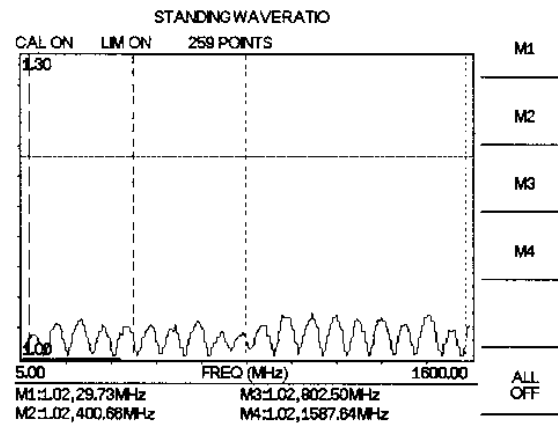

Figure 4-5. Cable SWR Measurement Results
**Step 17.** Observe the displayed measurement. Figures 4-5 and 4-6 show typical SWR and Return Loss measurements with markers and limit line set.
**Step 25.** Repeat steps 22 and 23 for marker M2. Set M2 to 400 MHz, M3 to 800 MHz, and M4 to 1590 MHz (Figures 4-5 and 4-6 depict the SWR and Return Loss measurements).